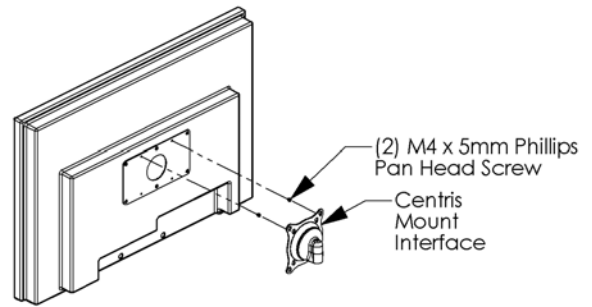

Figure 6. Install 200mm x 100mm Mount Display on Bracket
2. Thread two (2) M4 x 5mm Phillips Pan Head Screws in the two (2) upper mounting holes and hang the Display on the Centris Mount Interface (see Figure 6).